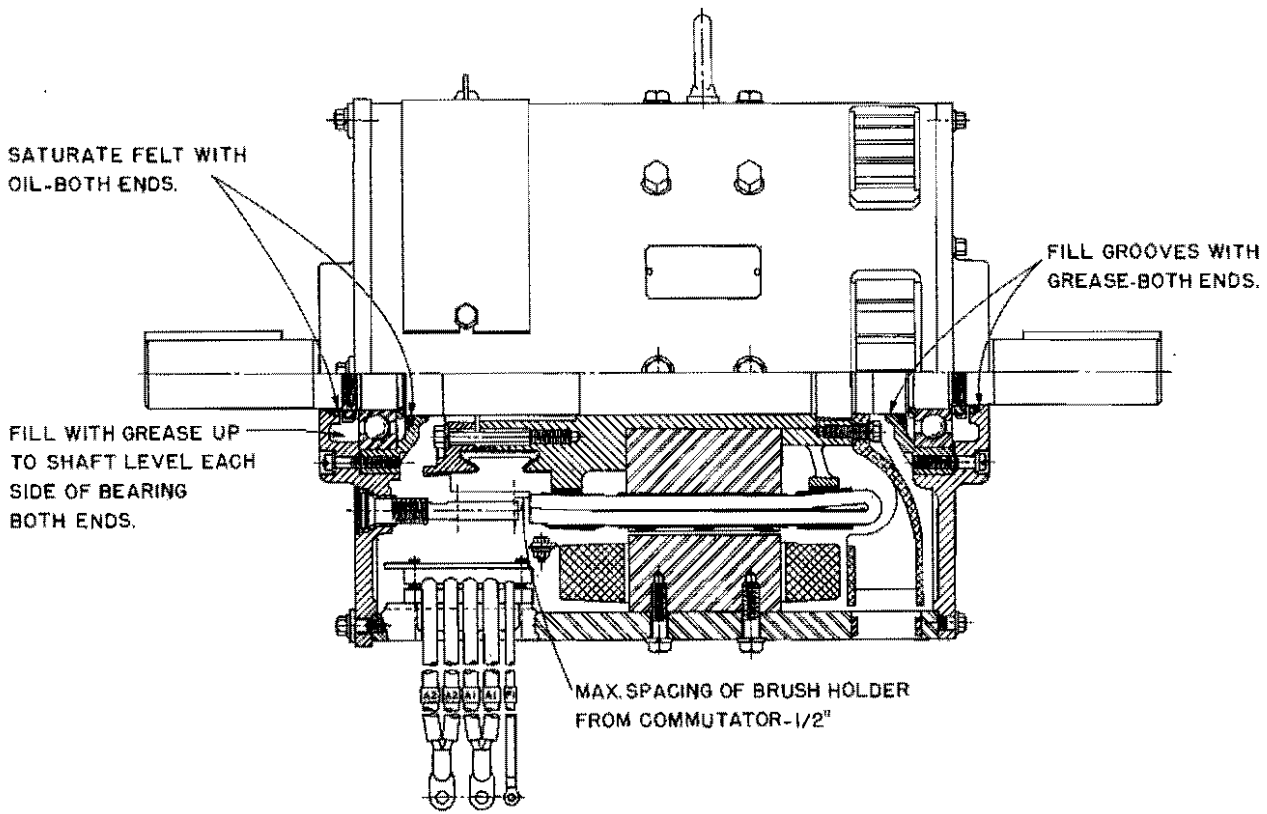

Fig. 9 - Sectional View Of Generator Outline
small amount of grease in bearing housing cavity to prevent parts from rusting, Fig. 9. Keep grease off felt seal.
8. Apply 3 ounces of Andok B grease to each end frame cavity as noted in Fig. 9, and assemble fan end frame over fan end bearing housing. Bolt end frame to bearing housing.